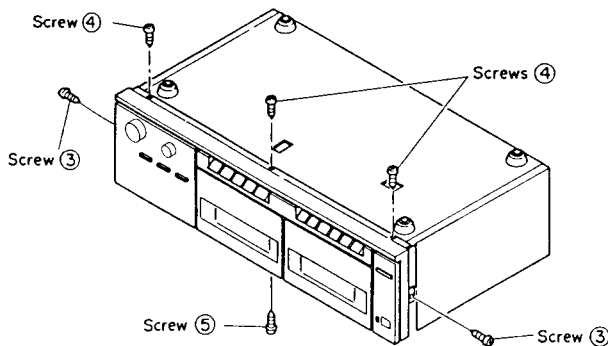

Fig. 1-2
- 1) Remove the 2 screws ③ on either side of the front panel. The 3 screws ④ on the bottom, and the 1 screw ⑤ on the top, as shown in Fig 1-2.